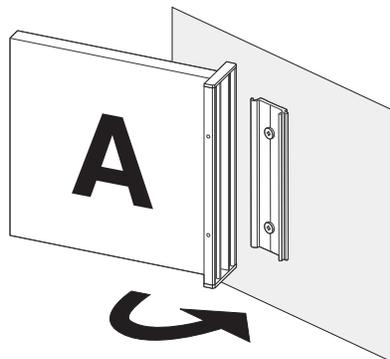

Fig. 3
3. Engage the 'hinge' edge of the CPMT (see opposite page fig. 5) in the radius area of the CPMA and rotate the sign assembly so that the CPMT and CPMA mate. (see fig. 3)